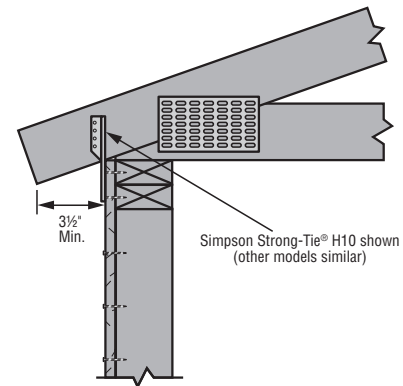

Figure 2
2. Install hurricane ties on the outside of the wall over the exterior side of WSP sheathing (see Figure 2). Applies only to hurricane ties listed.